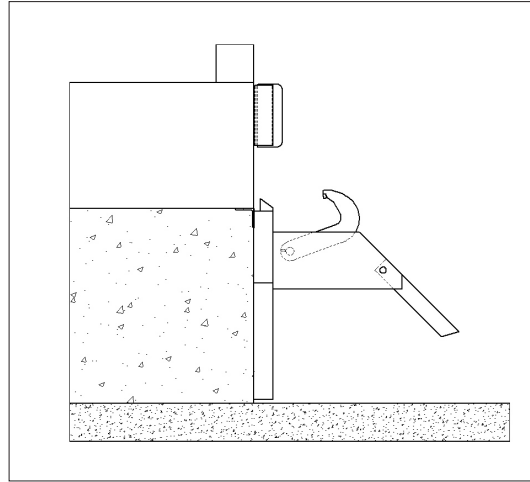

FIGURE 29—RESTRAINT LOCKED
3. Manually position Hook as shown in Figure 29 to obtain control box flashing GREEN light and silenced ALARM.